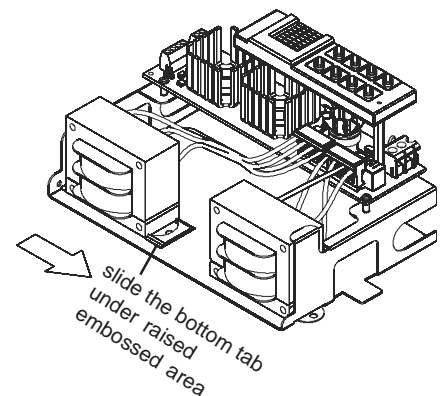

Figure 3
- 5) Slide the bottom tab under the raised embossed area on the chassis as illustrated in Figure 3.